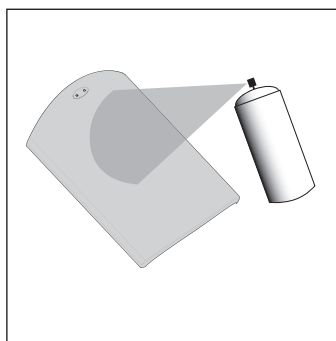

FIGURE 9: Paint the grille. Use thin coats of spray paint. Do not block grille holes with paint.
2. Using spray paint, spray two thin coats of finish color [figure 9]. If you're using a compressor and spray gun, use the finest, most diffuse setting. Be careful not to fill the holes in the grille with paint.